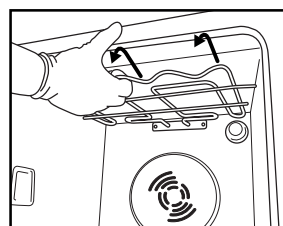
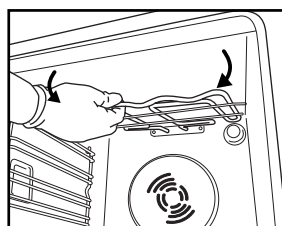

Fig. 6
Fig. 7
2. Pull the heating element out a little (fig. 6) and lower it (fig. 7).